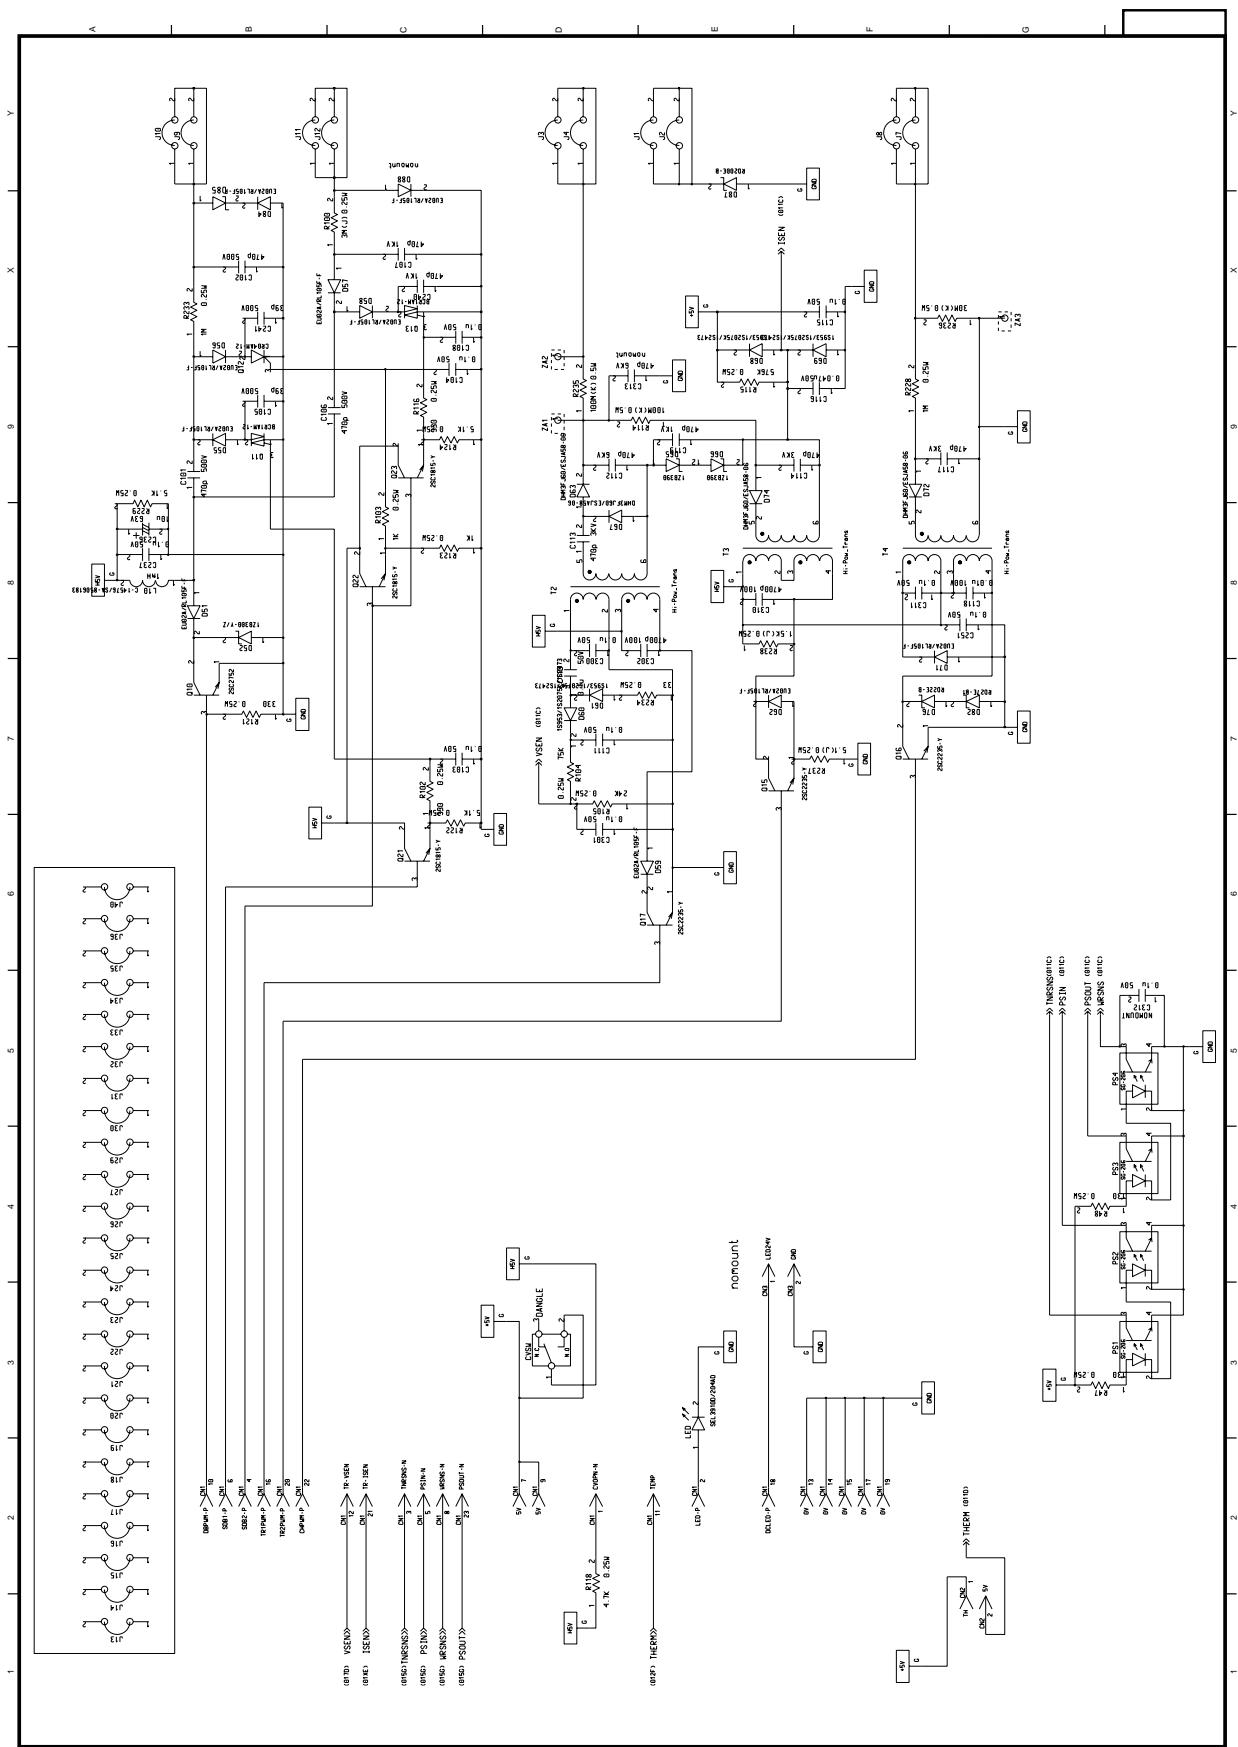

Figure 5-14 High Voltage Power Supply PCB (P2H-1/1) Circuit Diagram Rev.2
- Figure 5-14 High voltage Power Supply PCB (P2H-) Circuit Diagram (Rev.2)